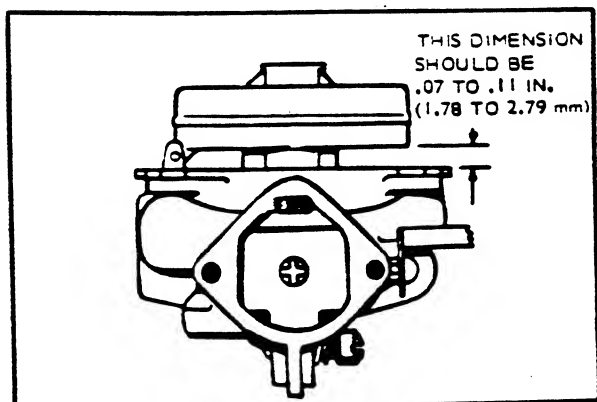

FIGURE 13. CARBURETOR FLOAT ADJUSTMENT
1. Invert float and casting. See Figure 13.
A drill bit can be used for this measurement as shown in Figure 13. Use a 3/32 inch drill bit or any bit between .07 inch (No. 50) and .11 inch (No. 35).